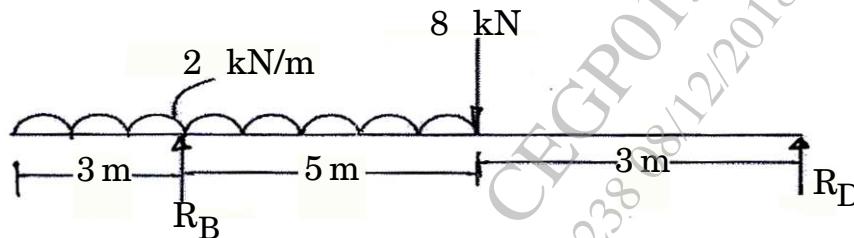

Fig. 5.2
- (b) Draw shearing force and bending moment diagram for the beam as shown in Fig. 5.2. Make maximum BMD. [6]